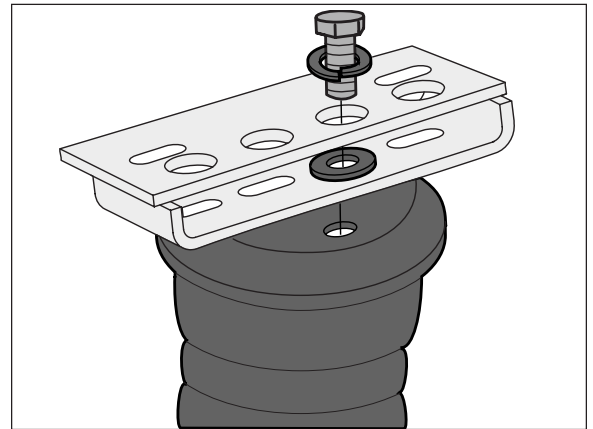

Figure 5
Attach the upper brackets (C) to the air springs with two 3/8-24x7/8” hex head bolts (I), lockwashers (S) and flat washers (M). Leave loose at this time (Fig. 5).